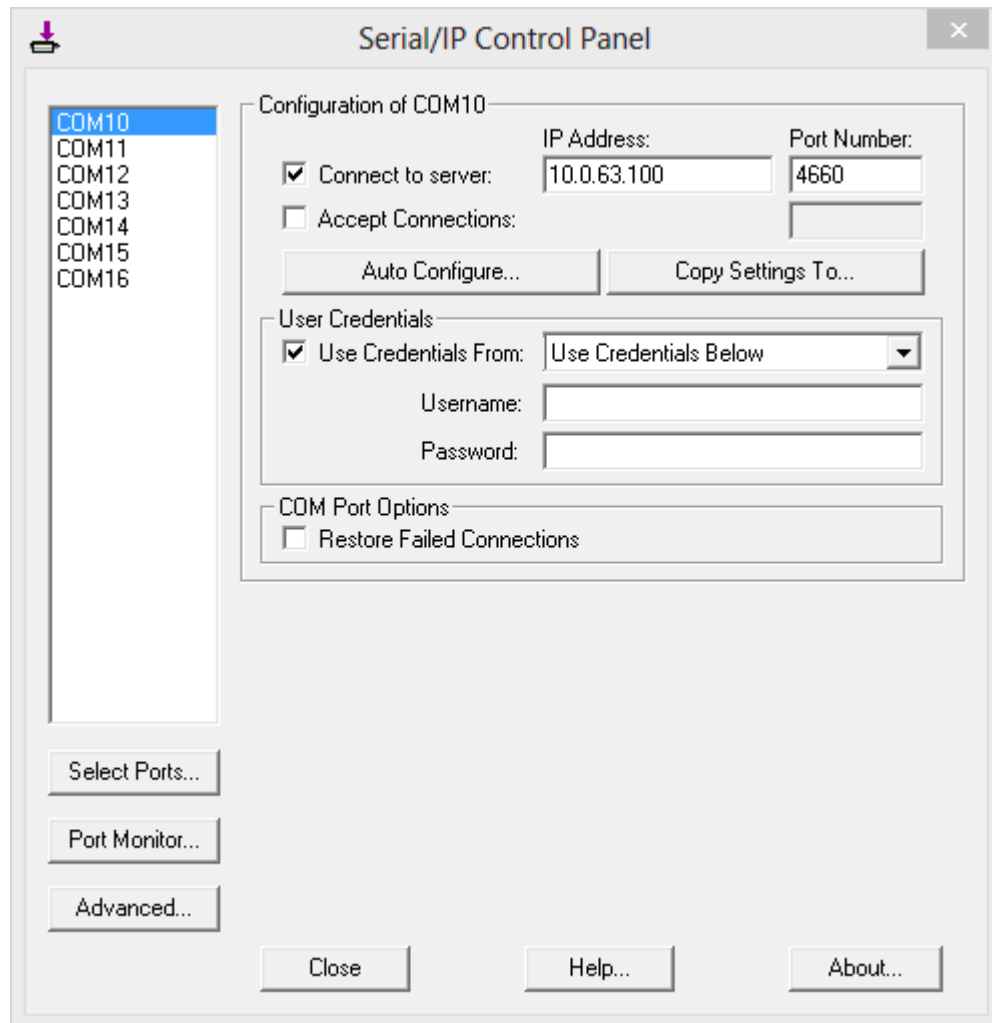

Figure 6.8 Available Options for Use Credential From in Serial/IP Control Panel Version 4.9.10
3. Under **User Credentials** box, you can enable **Use Credentials From:** option by checking the box in front of it then select options from the drop-down list. The available sources of credentials are: **Prompt on COM Port Open**, **Prompt at Login**, and **Use Credentials Below** as shown in Figure 6.8. If you select **Use Credentials**